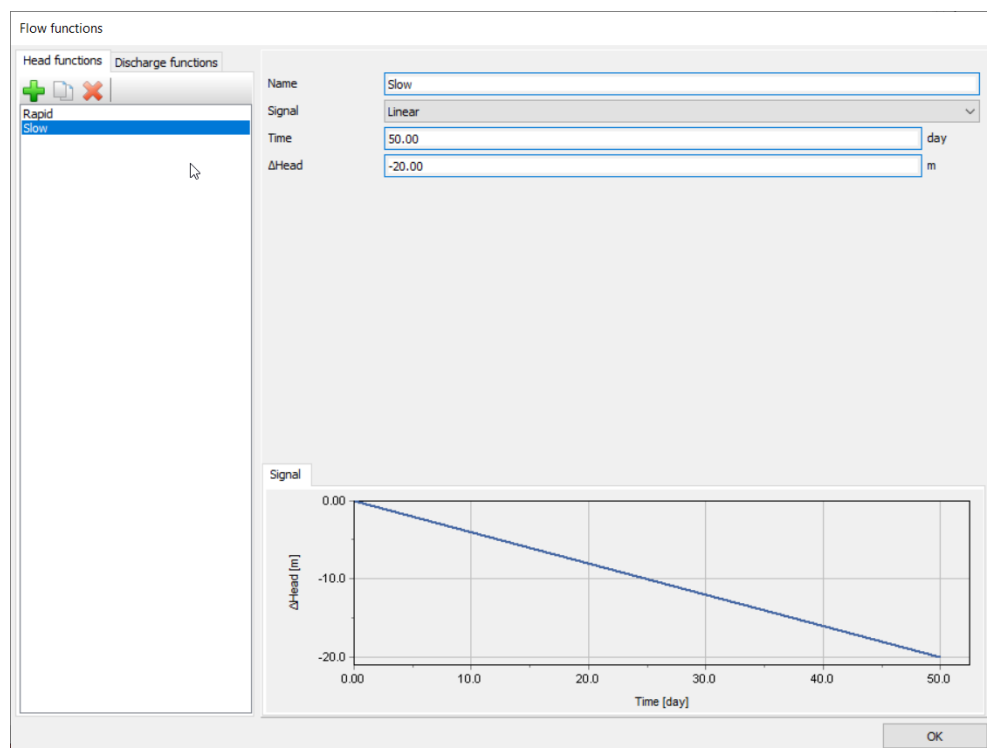

Figure 7–8: The flow function for the slow drawdown case
- 9 Create a new flow function (see Figure 7–8 \(p. 142\)) following the steps previously described.